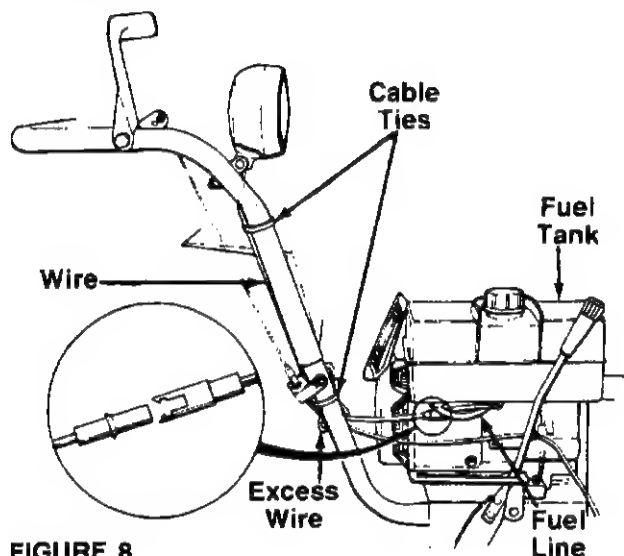

FIGURE 8.
4. Route the wire behind the handle panel and to the inside of the handle as shown in figure 8. Route it to the inside of the fuel line. Plug the wire from the headlight into the wire lead on the engine (located beneath the fuel tank).
5. Secure the wire to the upper handle using one cable tie as shown in figure 8. Loop any excess wire and attach it to the lower handle with the other cable tie as shown.